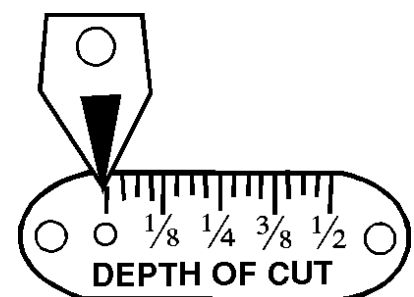

Fig. 20
The depth of cut is indicated by the scale located on the front of the jointer base as shown in Figure 20.
6. Keeping hands well clear of the cutterhead, place the stone into position as shown in Figure 20, and slide the oilstone back and forth across both tables until the knives are lightly jointed.